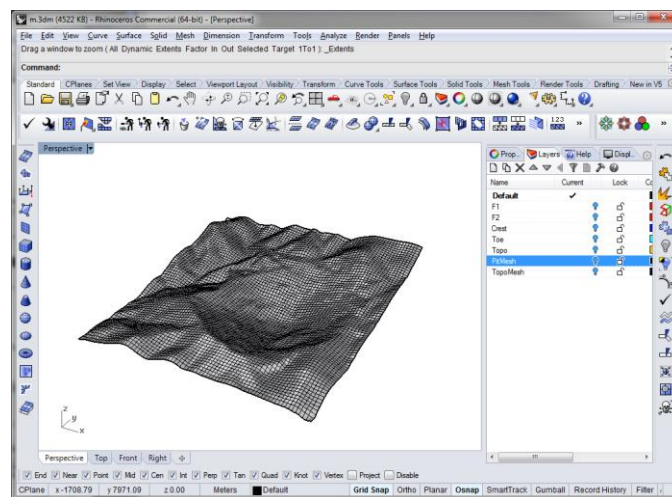

Figure 152: Draped surface.
2. **Release** the mouse **button** to complete the **Drape**. **Hide PitMesh** and **TopoMesh** in the Layers Panel, select the **Perspective View** and click on the **Shaded Viewport** icon (Figure 152). If you notice the surface dipping below realistic heights at certain points, this may be due to spilling through the gap between **PitMesh** and **TopoMesh**. Try draping again.